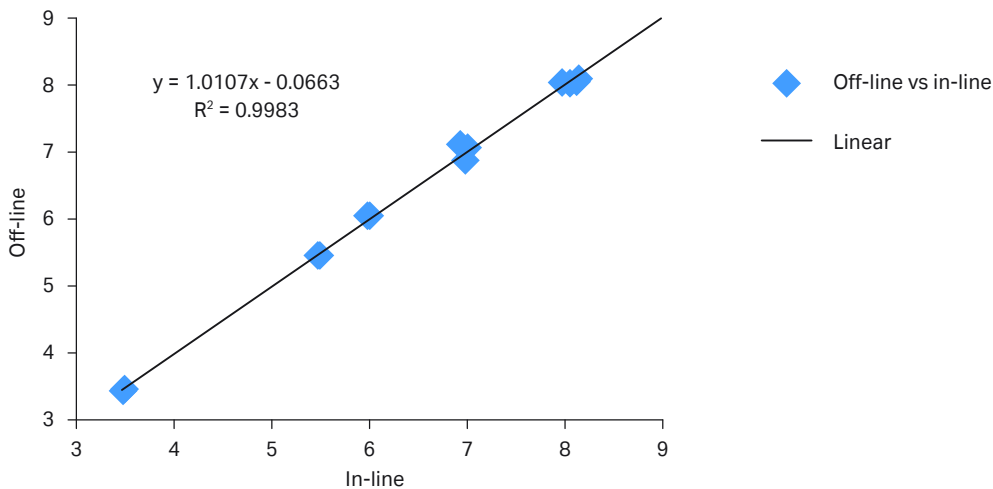

Fig 3. Correlation accuracy of in-line and off-line buffer mixing.
A. Based on an internal study done using different buffer families at different pH values, the correlation accuracy is 1:1 (Fig 3).